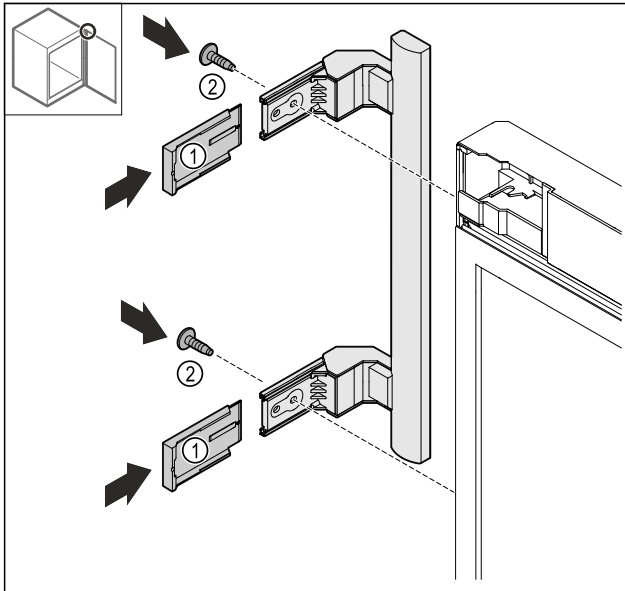

Fig. 25
- Push the covers Fig. 25 (1) on.